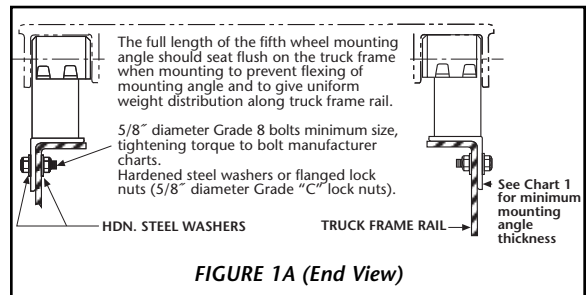

FIGURE 1A (End View)
Bracket with Mounting Angle (see Figure 1A, 1B, and 1C):
Bracket for Angle Mounting (see Figure 1A, 1B, and 1C):
- In addition to the information given in *"Installation: General Recommendations,"* follow the recommendations given in *Figures 1A, 1B, and 1C*. The following sequence is suggested for both fabricated and cast brackets:
- Bolt the angles to the tractor as shown in *Figures 1A and 1B*.
- For **fabricated** brackets (a welded assembly), weld the bracket to the mounting angle with 1/4" fillet welds on both sides, and 1/2" groove welds on both ends, as shown in *Figures 1A and 1B*. The welds should be continuous around the bracket and joined at the corners.